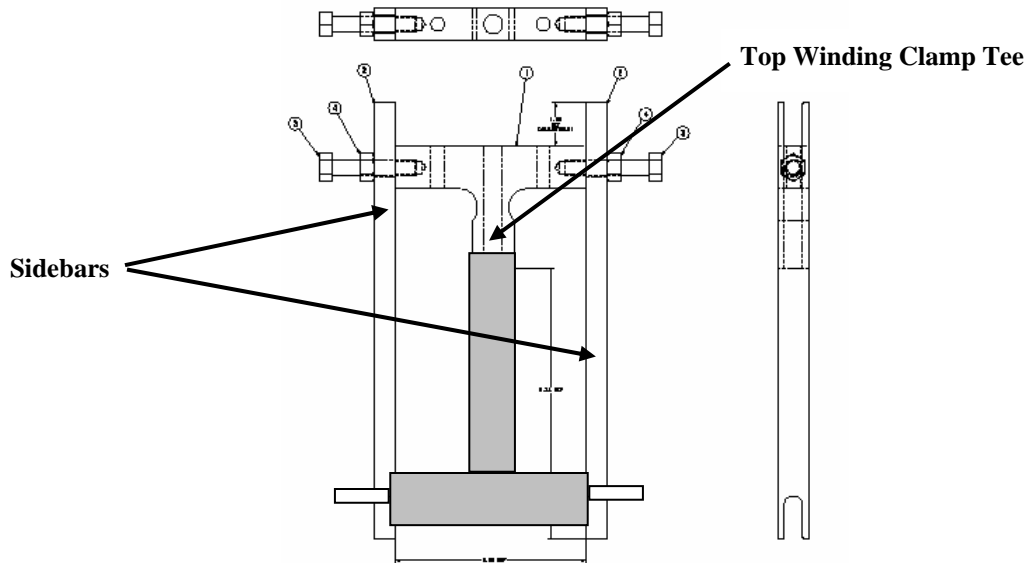

Figure 23- Winding Clamps
Mount the top tee section of the winding clamps to the MCWF as shown in Figure 23- Winding Clamps. The clamps are located approximately every 3 inches along the entire length of the MCWF. Secure the winding clamp tee to the top of the septum using the appropriate hardware. Use the (2) side bars to assist in the positioning of the top section, but do not leave in place. [This operation can be performed at either Casting Prep station 4 or in the winding stations 2 or 3]